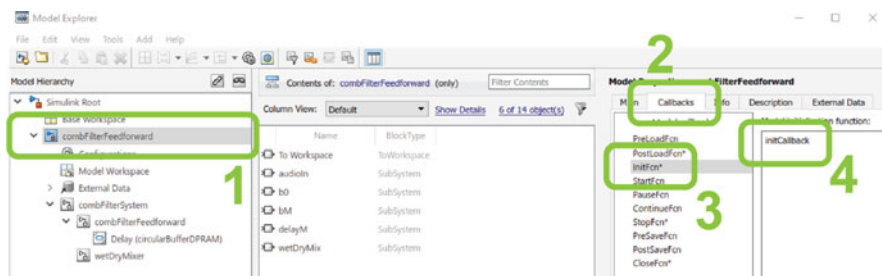

Fig. 2.2: Specifying the Simulink model callback functions
- Principle 4: Model callbacks should have their own associated files. This allows for easier access and modification using the Matlab editor. These are common enough that they can be easily reused in new models (see Sect. 2.2.2). For example, the file *initCallback.m* is called by the *InitFcn* callback (see Fig. 2.2 to see where this callback is accessed in the model).
In order to see the callbacks, follow these steps that are outlined in Fig. 2.2: